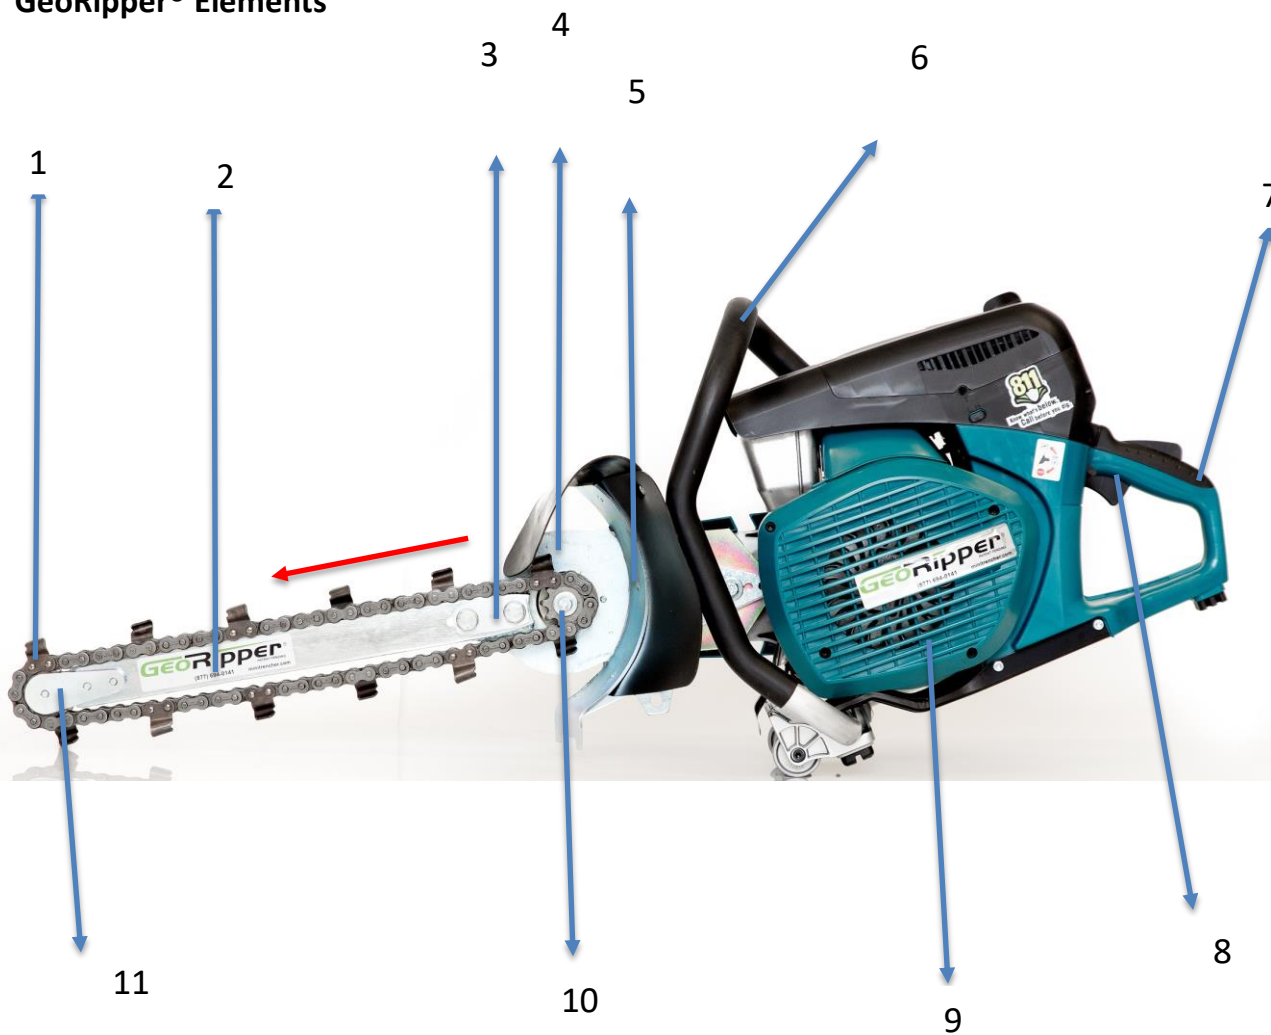
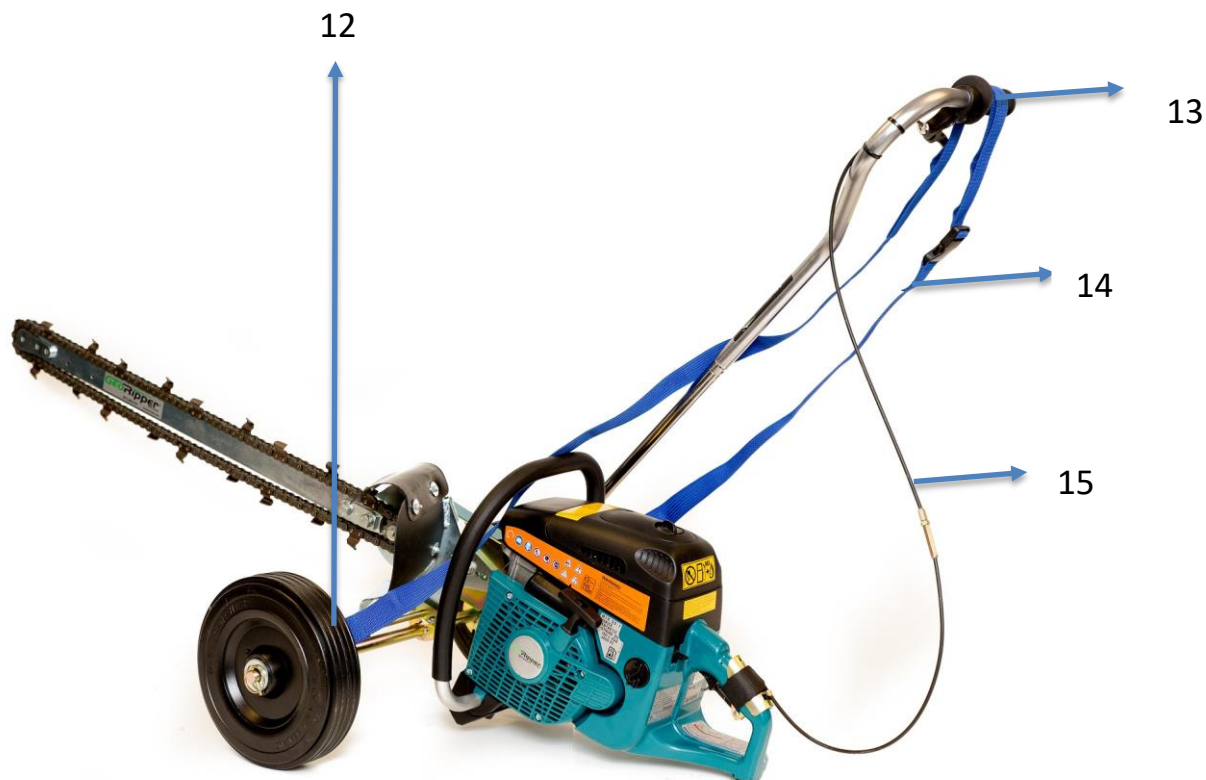

Fig.1
Fig.2
The GeoRipper® mini trencher is made of a cutting chain and bar (2 Fig.1) mounted on a power unit. The power unit, or engine (9 Fig.1), is an integral part of the product. The GeoRipper® can be operated hand held using the two handles (7 & 6 Fig.1) located on the power unit. The user operates the GeoRipper® with the throttle trigger (7 Fig.1) and the engine rotates the chain in the direction indicated by the red arrow. The chain stops rotating when the operator releases the throttle trigger and the engine returns to idle speed. Additional information about the power head can be found in the operation manual of the relating model and manufacturer.
The GeoRipper® can be used mounted on the optional EZ Kart® (Fig.2) which is standard with GR27-M, GR27-H and GR27-S. When mounted on the EZ Kart®, the user operates the machine using the lever throttle (13 Fig.2) on the cart handle and pulls the GeoRipper® using the straps provided (14 Fig.2)
The chain and its cutting teeth (1 Fig.1) is a ground engaging assembly that creates a trench in the ground by rotating at speed in the direction indicated by the red arrow on Fig1, away from the operator. The chain bar (2 Fig.1), drive sprocket (10 Fig.1) and nose sprocket (11 Fig.1), provide guidance and engaged the chain to rotate. The drive sprocket is powered by the engine (9 Fig.1) which is controlled by the operator using the throttle trigger (8 Fig.1) on the power head or the throttle lever (13 Fig.2) on the cart. The wheels (12 Fig.2) on the EZ Kart® provide motion for the machine when pulled by the operator using the straps (14 Fig.2).
Location of the manufacturer’s serial number (4 Fig.1). The serial number is unique and identifies the model, bar size and power head manufacturer for each GeoRipper®. The serial number is stamped in the GeoRipper® mounting plate just above the bar securing bolts.
The GeoRipper® can be lifted by its tubular front handle (6 Fig.1) and always carried with the engine switch off and the trenching bar facing backwards. Ensure that the fuel cap is properly closed. Do not touch the exhaust whilst transporting as it may be hot. When used with the EZ Kart®, the mini trencher must not be lifted or carried, but only transported by pushing or pulling the EZ Kart® on its wheels. When transported inside a vehicle, the GeoRipper® must be standing upright to avoid fuel / oil spillage and be suitably strapped down inside the vehicle with the bar removed and stored securely.
- Do not use if the plastic / rubber stone guard is not present (*Fig.1 item 5*)